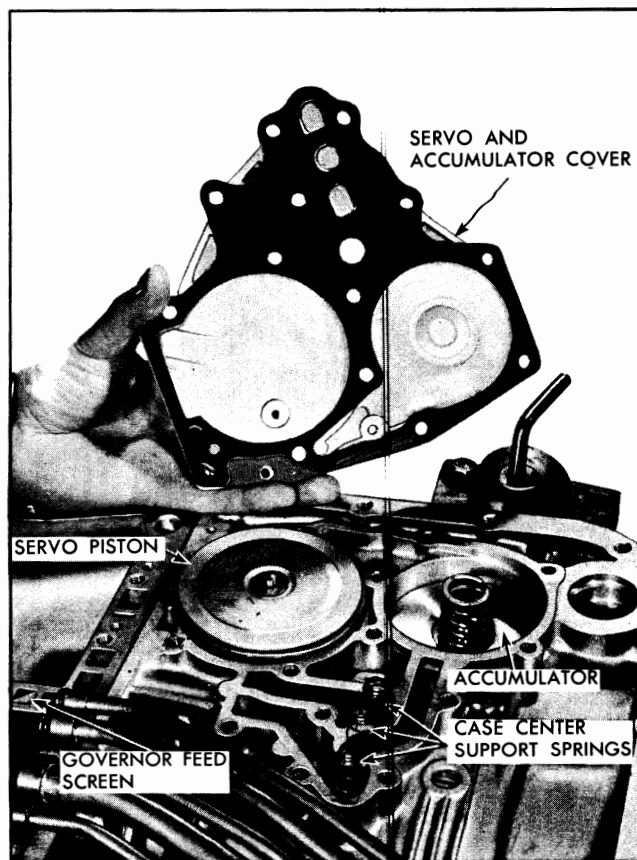

Fig. 7C-43 Removing Servo and Accumulator Cover
17. Remove the three (3) case center support springs and seals (Fig. 7C-44). (Seals may have remained in transmission case.)